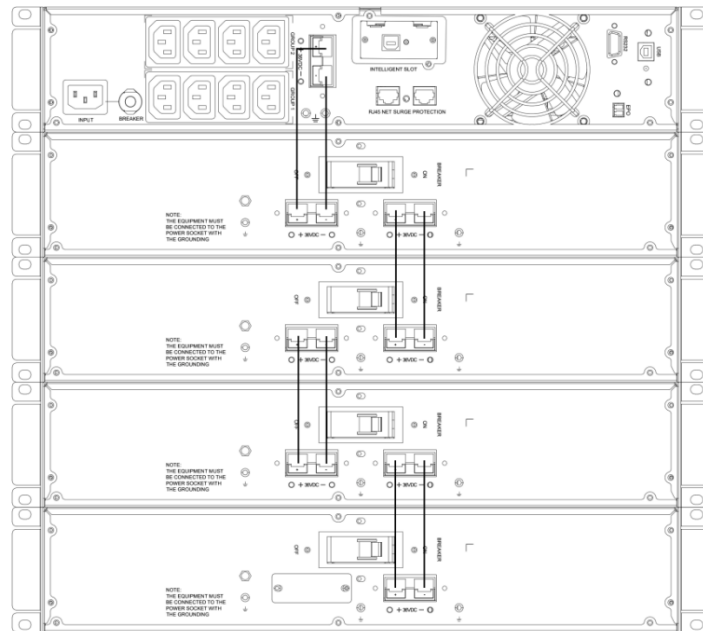

Figure 57: Connect the EBP(s) - Example 4x EBP System
79. As indicated in the mounting section, the EBP should be mounted under or near the UPS. Plug the EBP cable(s) into the battery connector(s) as shown in Figure 57. Figure 57 is an example system, the actual UPS and EBPs that are part of the system deployed may have the battery connections in different physical locations on the back of the UPS and/or EBP then shown in this figure. Insert and press the connector tightly together to ensure a proper connection.